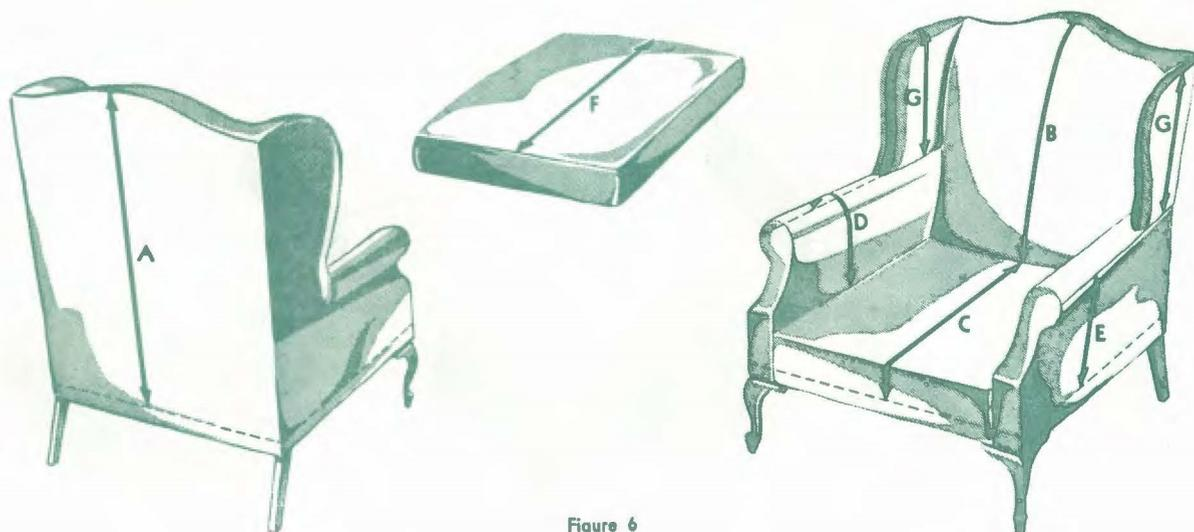

Figure 6
Complete the styling of the piece. Measure up from the floor with a ruler and mark a line completely around the piece at the point where the flounce is to join the slip cover. This line should be the same distance from the floor at all places. Remove the cushions from pieces which have cushions. Carefully measure each section separately (adding necessary allowances) as follows (see Figure 6):
1. *Outside Back Pieces:* Measure from flounce line to highest point of the outside back of the chair, add two seam allowances. This measurement should be tripled if measuring for a divan (A in Figure 6).
2. *Inside Back Piece:* Measure from the highest point of the inside back to seat line, add two seam allowances and tuck-in allowance if required. Triple this measurement if for a divan (B in Figure 6).
3. *Seat and Apron Piece:* Measure over the longest part of the seat from back to flounce line. Add two seam allowances if the cover has been styled without an apron, four seam allowances, if it has been styled with an apron. Add tuck-in allowance, if any. Triple this measurement if for a divan (C in Figure 6).
4. *Inside Arm Piece:* Measure from seat line up over the fullest part to highest point of inside arm seam line. Add two seam allowances and tuck-in allowance, if any. Double this measurement unless the width of the material makes it possible to get both arm pieces out of one width (D in Figure 6).
5. *Outside Arm Piece:* Measure from flounce line on outside arm up to seam line at the highest point of the arm, the location of which has already been made and marked. Add two seam allowances. Double this measurement unless the width of the material is such that it is possible to get both arm pieces out of one width (E in Figure 6).
6. *Top and Bottom Cushion Piece:* Measure from back to front over longest part of the cushion. Add two seam allowances. Double this measurement unless both pieces can be obtained from one width. Triple this measurement if for a divan (F in Figure 6).
8. *Wing Pieces on Wing Chair:* Measure from the point where the wing joins the arm at the inside, up over the highest and fullest part of the wing and down the back where the wing joins the outer arm, add four seam allowances. This should give you the amount of material for both wings (G in Figure 6).
9. *Flounce:* To determine the amount of material required for the flounce, measure the distance around the chair at the flounce line as shown by dotted line in Figure 6. Allow one and one-half this measurement if the flounce is to be gathered. If the flounce is to be pleated, allow two or three times the distance around the chair. The flounce should come to within 1 inch of the floor when it is finished and must be cut with the up and down grain running at right angles to the floor when it joins the slip cover. The hem will follow the cross-wise grain. This, of course, will require seams at intervals. Determine how many widths of material will be needed to obtain the amount necessary for gathering or pleating.